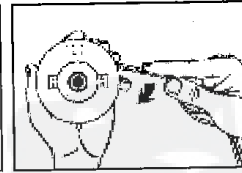

Fig. 9C
5. Wind the cutting line clockwise on the reel as shown in Fig. 9C. Make sure the line is tight and each line half is in the appropriate separate reel housing. Wind up the line until 6" (15cm) remains.